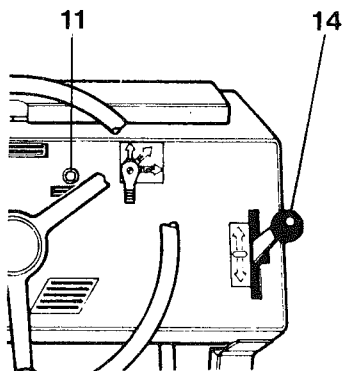

Fig. 7
- 3 Release the handbrake (2), by moving the lever forward and down. This should cause the handbrake warning lamp (11), fig. 7, to go out.